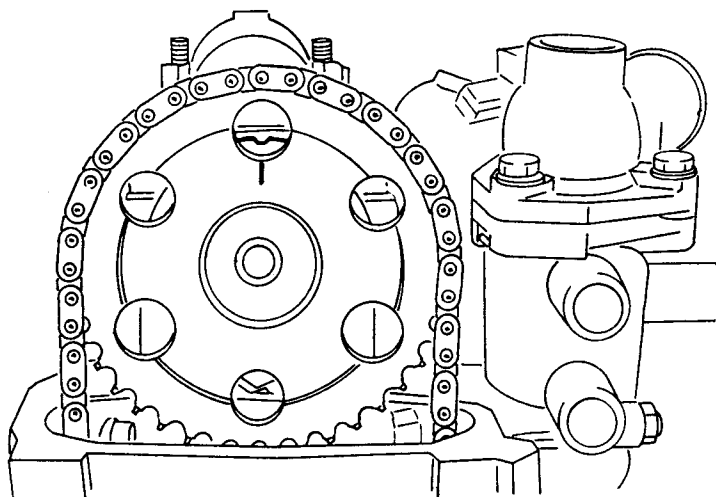

Fig B4.111
- (4) Refer to Fig B4.111. Replace the camshaft sprocket. Check that the timing marks on the sprocket and carrier are aligned.
- (5) Refit the chain over the sprocket.
- (6) Replace the camshaft cover (see Sub-section B4, Chapter 11).